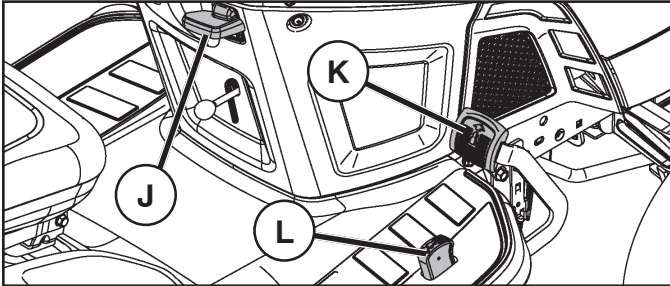

Fig. 24
(See Fig. 24)
- Slowly depress forward (K) or reverse (L) drive pedal to begin movement. Ground speed increases the further down the pedal is depressed.
TO USE CRUISE CONTROL (J) (See Fig. 24)